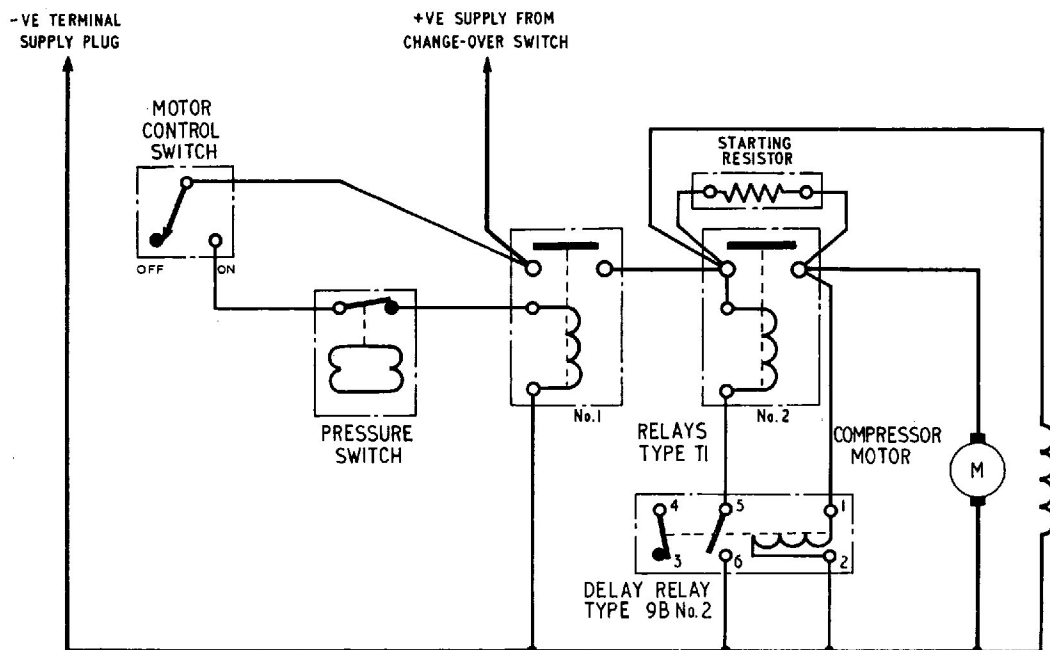

Fig. 7. Motor control circuit (theoretical)
13. This paragraph should be read in conjunction with the theoretical motor control circuit diagram given in fig. 7. When the engine has warmed up and the generator output has reached its normal value of 28V, the compressor motor may be started as follows :—